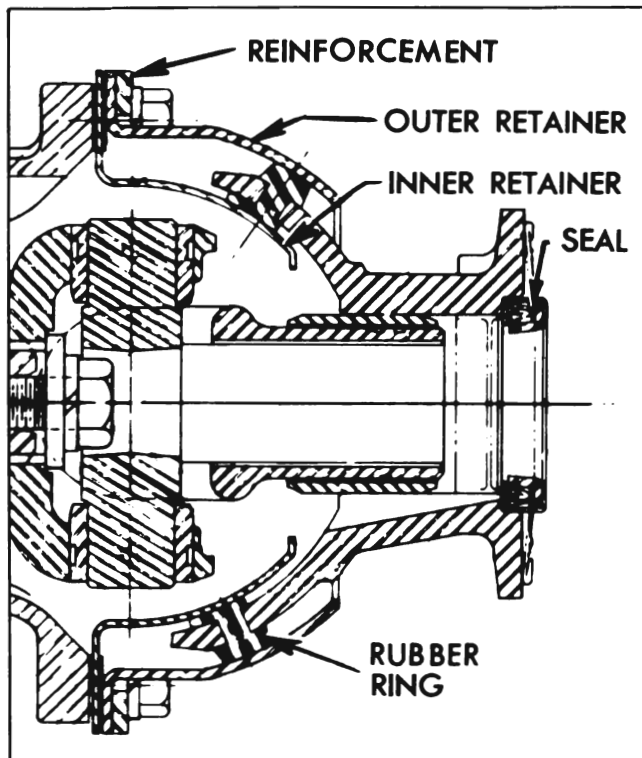

Figure 4-12—Torque Ball Assembly
2. Remove retainer bolts, reinforcement, torque ball, retainers and gaskets from transmission rear bearing retainer. See figure 4-12.